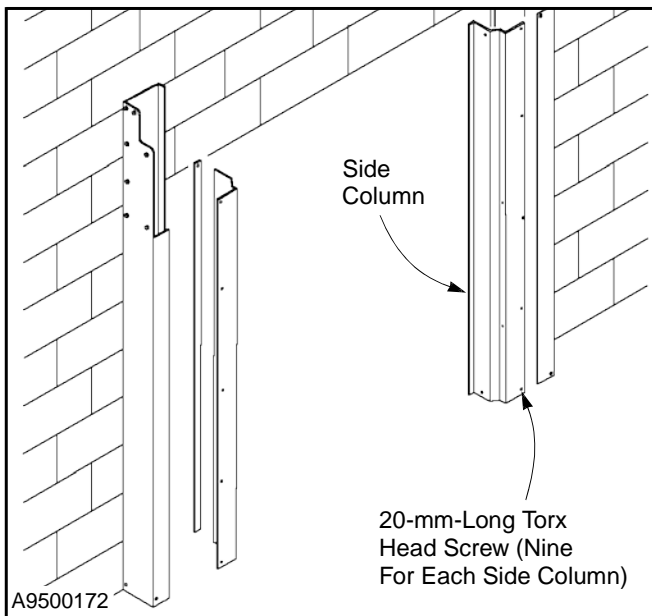

Figure 61
5. Attach the left- and right-hand side covers. Each cover is attached to the side column using nine, 20-mm-long, Torx head screws. (See Figure 61.)